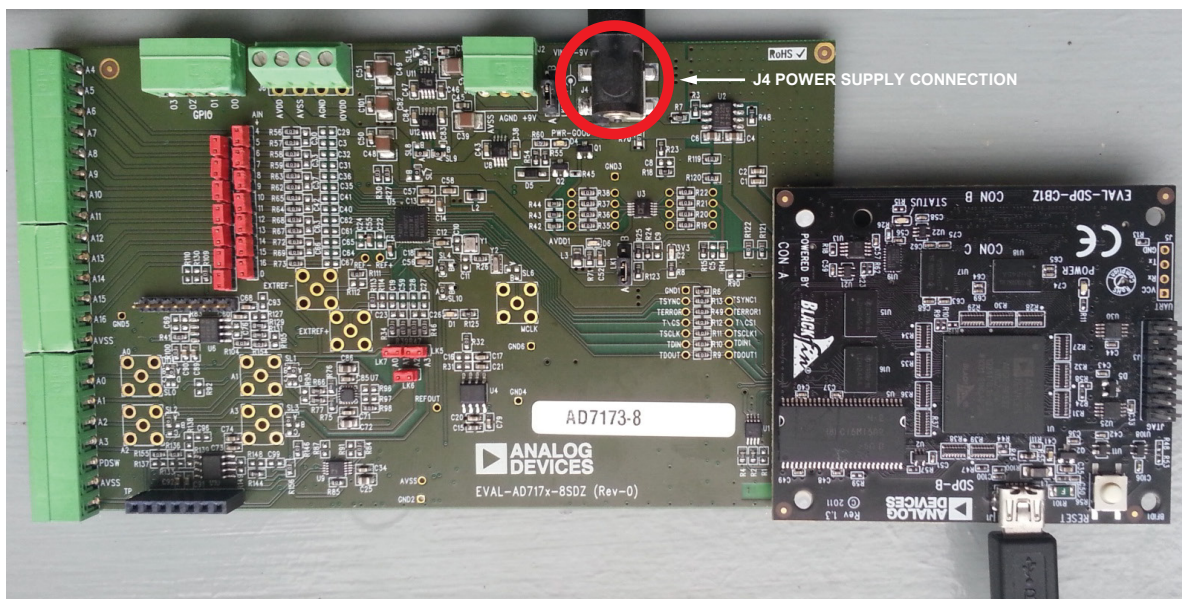

Figure 2. Hardware Configuration, Setting Up the **EVAL-AD7173-8SDZ**
2. Connect the **SDP-B** board to the **EVAL-AD7173-8SDZ** board, as shown in Figure 2.
4. Connect the external 9 V power supply to Connector J4 of the **EVAL-AD7173-8SDZ** board as shown in Figure 2. Set LK2 to Position B.